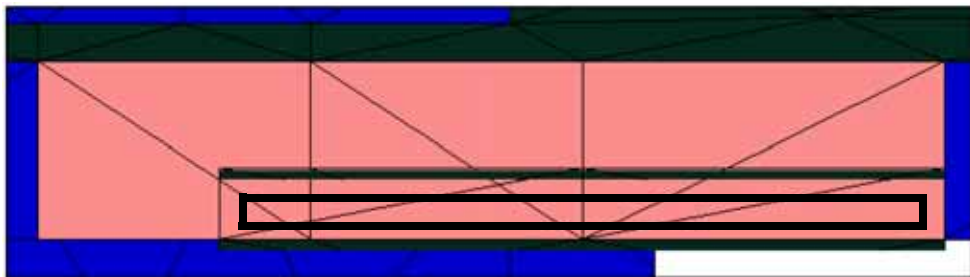

Figure 145: Selection in the finger
4. Band select inside the finger as shown in Figure 145 to select the elements to delete.